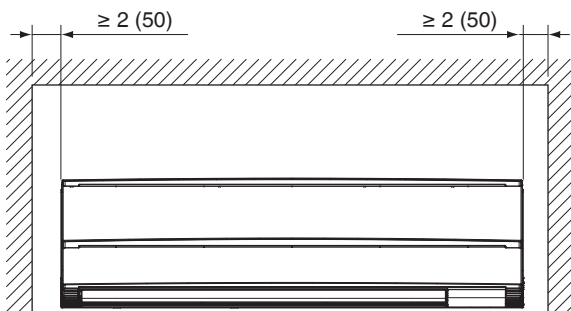
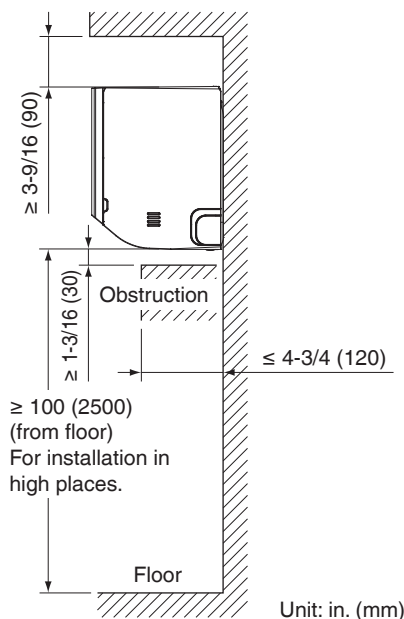

Fig. 1
Fig. 2
(1) Select the installation location that meets the following conditions and get approval from the customer.
- Where a space sufficient for installation and service can be ensured. **(Refer to Fig. 1 and Fig. 2)**